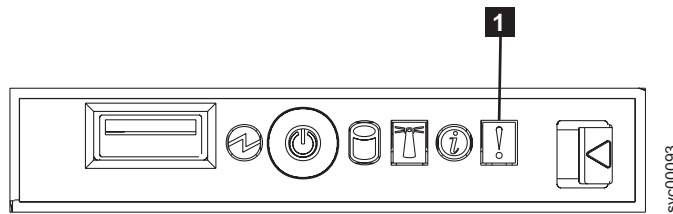

Figure 45. Operator panel error LED
- Is the operator panel error LED that you see in Figure 45 illuminated or flashing?**